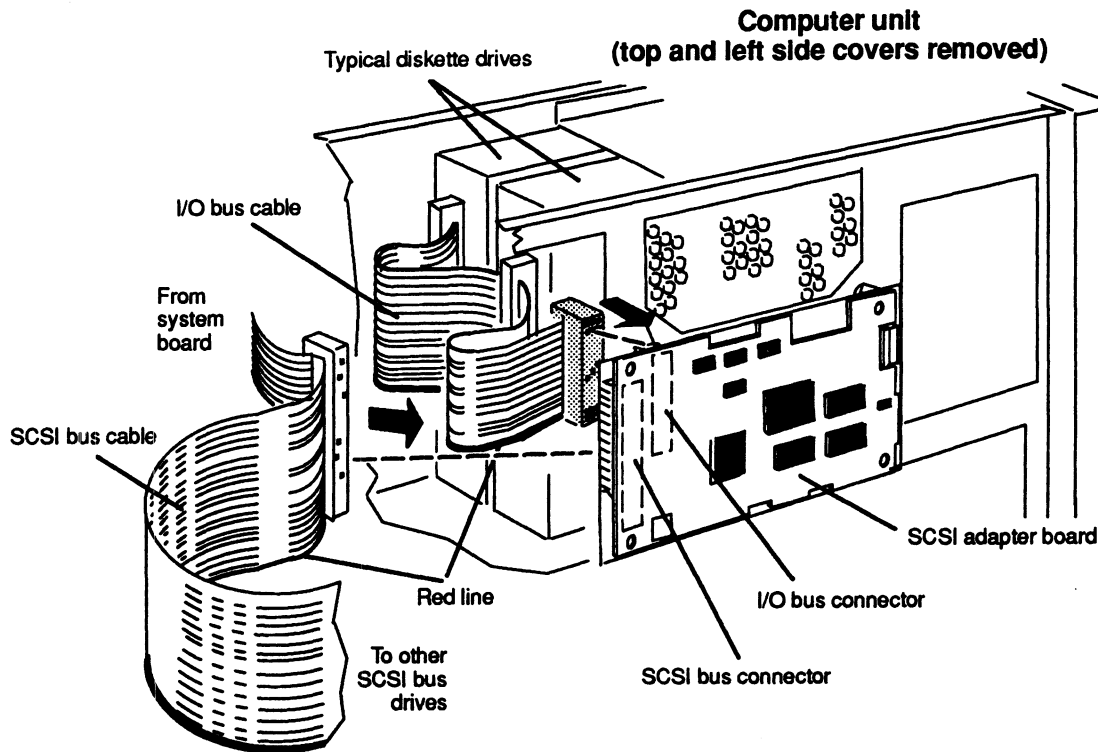

Figure 6-18 Plugging the SCSI Bus and I/O Bus Cables into the SCSI Adapter Board
4. Plug the SCSI bus and the I/O bus cables into the SCSI adapter board as shown in Figure 6-18. Be sure to plug in each cable so that the red line is on the bottom.